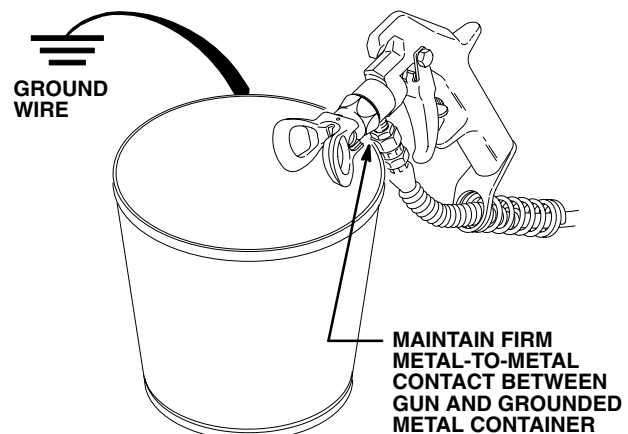

Fig 3
- f. Hold a metal part of the gun firmly against a grounded metal pail. See Fig 3. Squeeze the trigger, turn the ON/OFF switch to ON, and slowly increase the pressure until the sprayer starts. Keep the gun triggered until all air is forced out of the system and the paint flows freely from the gun. Release the trigger and engage the safety latch.